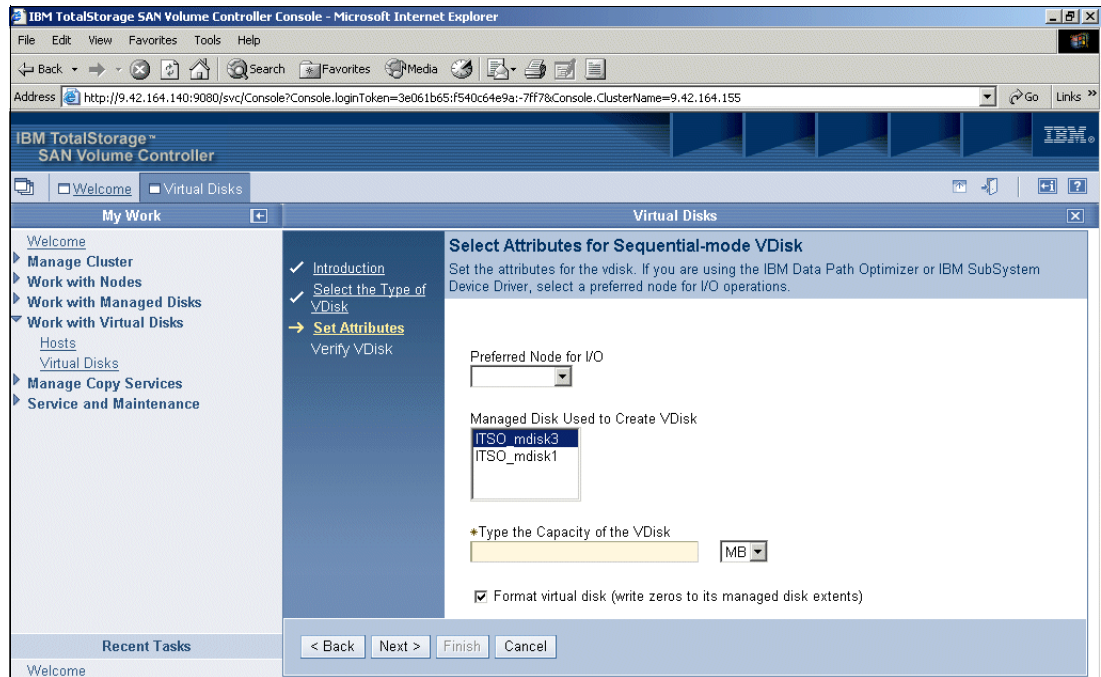

Figure 9-64 Creating a vDisk wizard: Select Attributes for Sequential-mode vDisk
- As shown in Figure 9-64, with a *sequential* vDisk, you can: